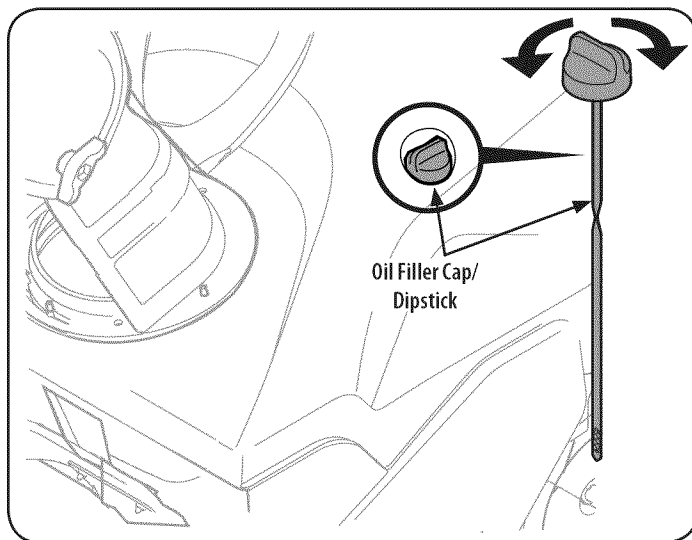

Figure 7
2. Remove the oil filler cap/dipstick and wipe the dipstick clean. See Figure 7.